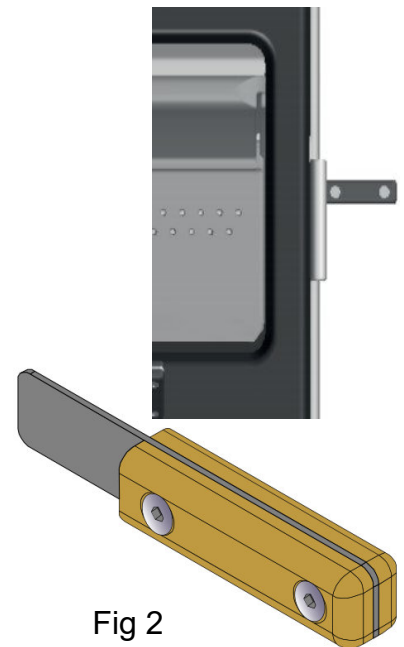

Fig 2
3. Place door spacer tool on magnet latch on the door, light the firelighters and push door to closed position, with the door space tool (Fig 2) the door is open approximately 2 mm. This provides additional combustion air for start up and reduces condensation on the door glass.